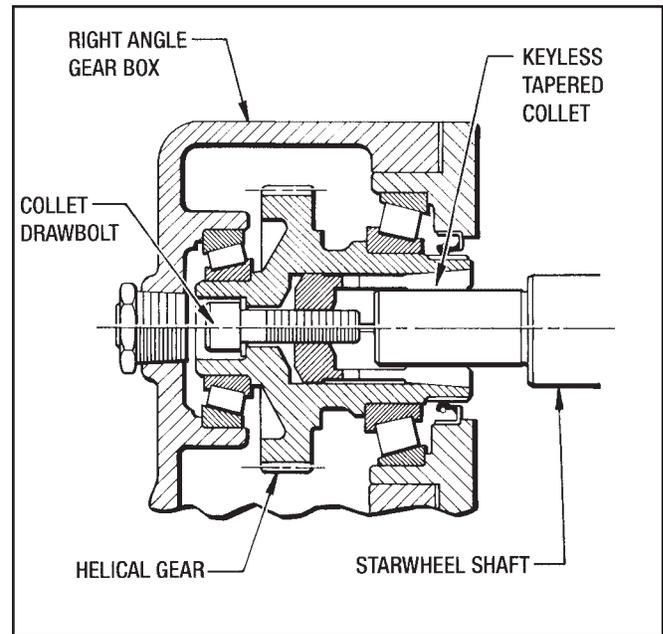

Figure 1.3 - Collet Arrangement
Two (2) Right Angle, 4:1 Gear Boxes are used to drive the Starwheels. A 1:1 Poly Chain Belt drives the input gearbox which is coupled to the other gearbox. A collet arrangement is used to connect the gearboxes to the starwheel shafts. (See Figure 1.3) The collet is a tapered shell bored